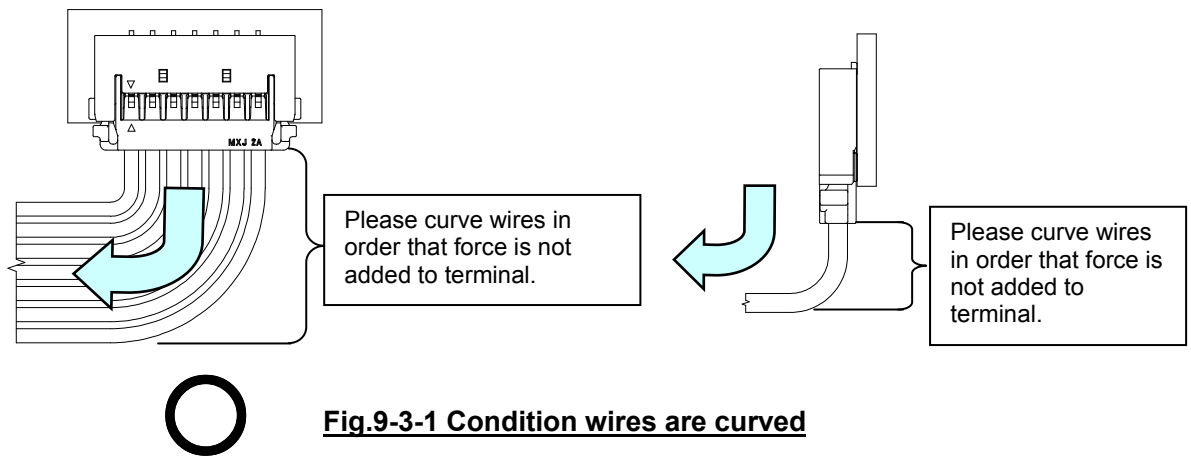

Fig.9-3-1 Condition wires are curved
- ※If you plan pulling around wires inside machine, please take measures to it for example wires have enough curve, and be careful force is not added to connectors directly.(Fig.9-3-1)